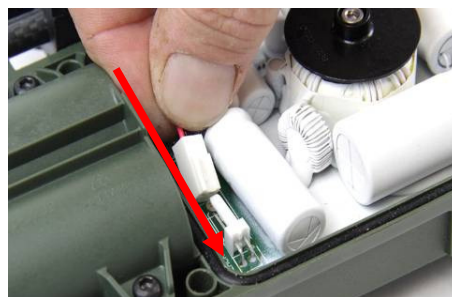

Figure 45: Connecting Battery Connector
- Connect the battery connector to the main PCB. Figure 45.